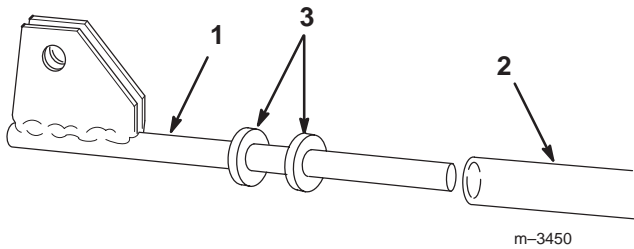

Figure 16
7. Add (2) 1" (25 mm) washers onto the end of the rod assembly, then slide it into the lift tube (Fig. 16).